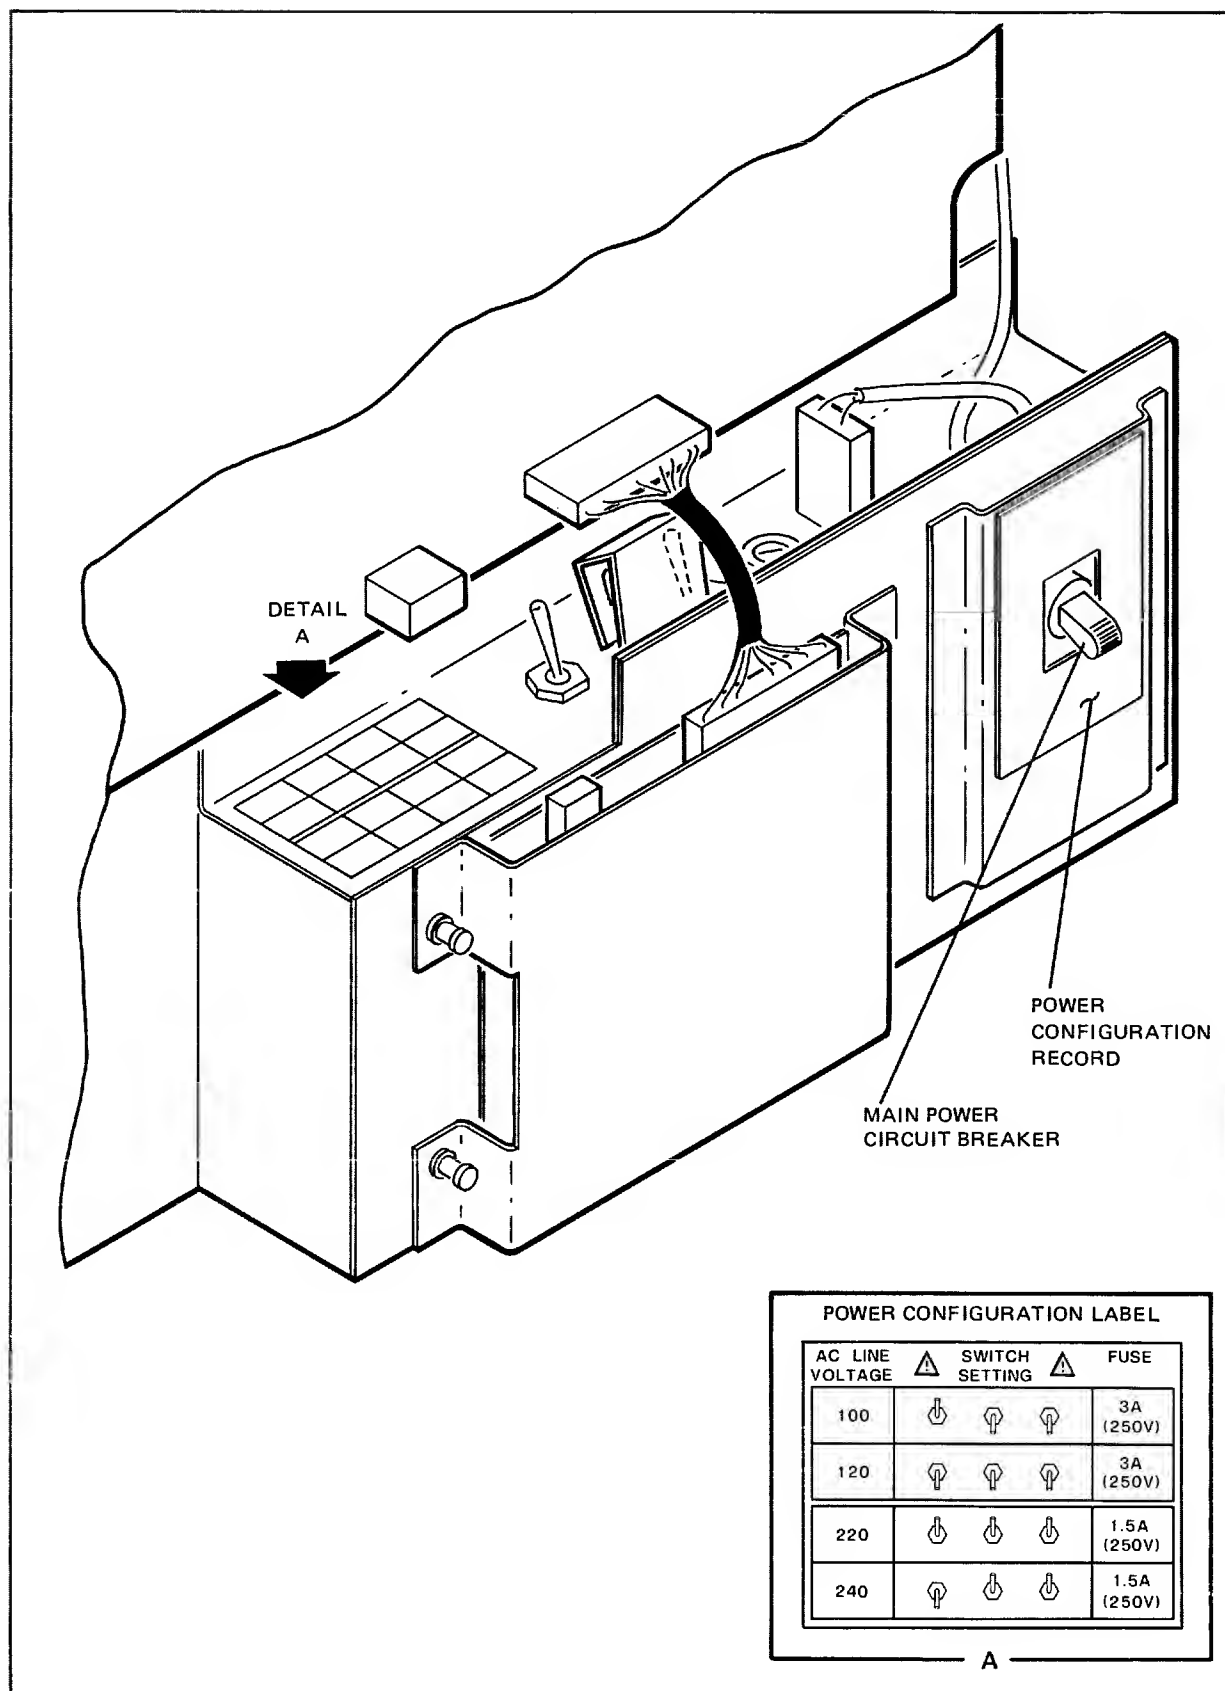

Figure 4-1. Power Configuration Label and Switch Settings
2. If the measured voltage is not within tolerance, change the switch settings accordingly. (See figure 4-1.) If the switches are changed, change the power configuration record label to reflect the current switch settings.